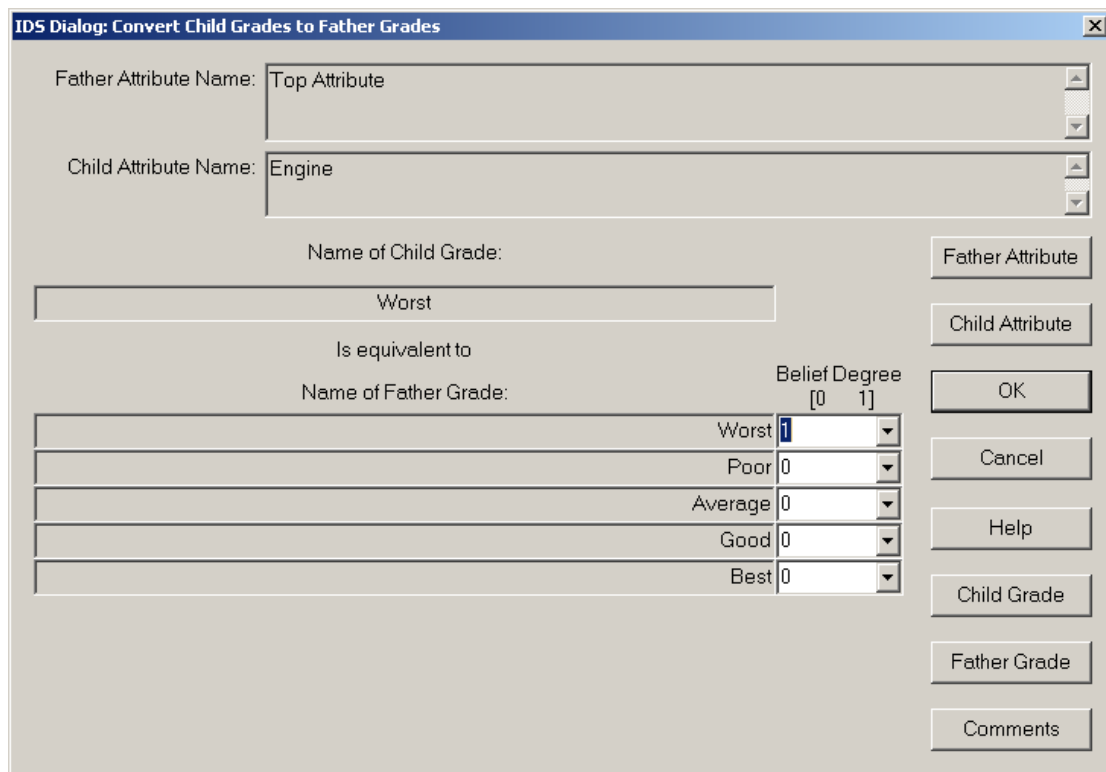

Figure 2.17 Covert Child Grade to Father Grade by Rules
- When asked whether to convert grades manually (**Figure 16**), answer *Yes* and the IDS Dialog window similar to **Figure 2.17** will be displayed. The window displays the program default conversion for **Rule 1**. You may modify it accordingly to the new rule above. When it is done and you click the **OK** button in the window, the current window will close and another similar window will pop up for you to view or modify another rule. The process continues until all the 6 rules are viewed or changed.
If you wish to change the conversion at any time later, you can invoke the *IDS Dialog: Convert Child Grades to Father Grades* (**Figure 2.17**) by selecting *Modelling->Convert Grades* from the main menu of the IDS window.